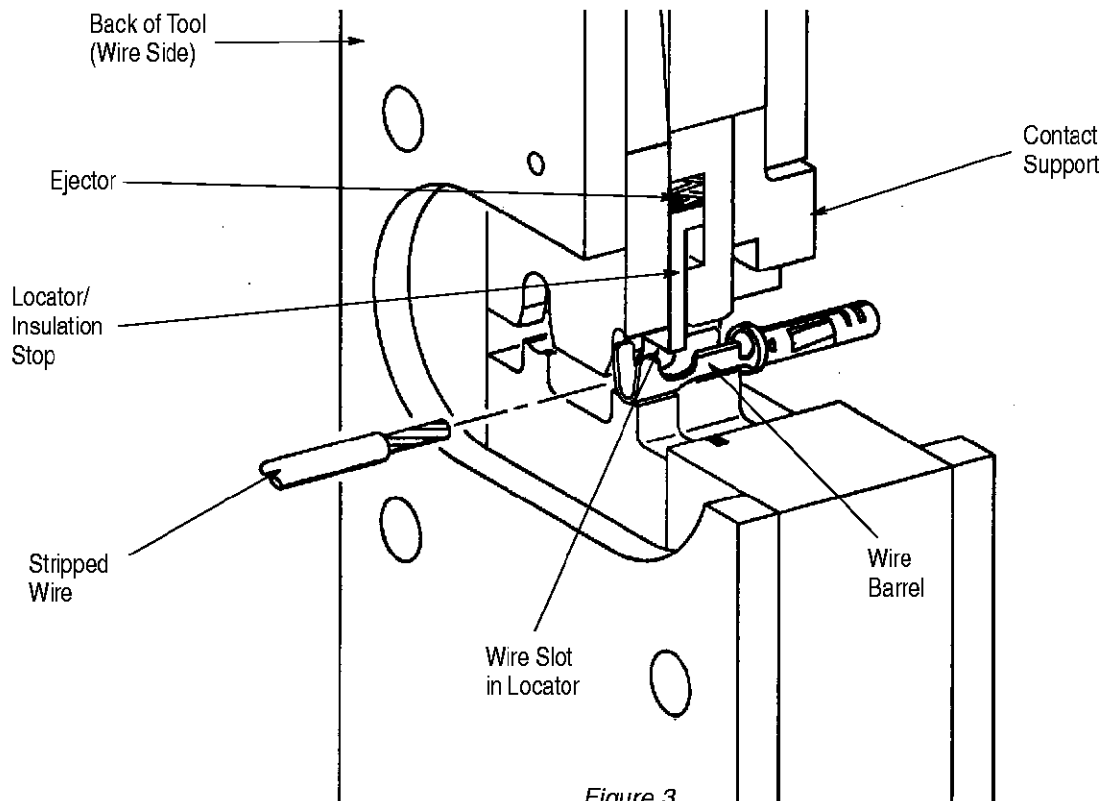

Figure 3
3. Hold the tool so that the back (wire side) of the tool is facing you. See Figure 3.
8. Insert a properly-stripped wire into the wire slot in the locator and into the wire barrel of the contact until the insulation butts against the locator/insulation stop. See Figure 3.
The Insulation barrel crimp height is controlled by the insulation adjustment lever (Figure 3). To determine the proper setting, test crimp a contact using the setting which approximates the insulation size (1-small, 2-medium, or 3-large). If the crimped insulation barrel is too tight or too loose, change the setting accordingly. The crimp should hold the insulation firmly without cutting into it.